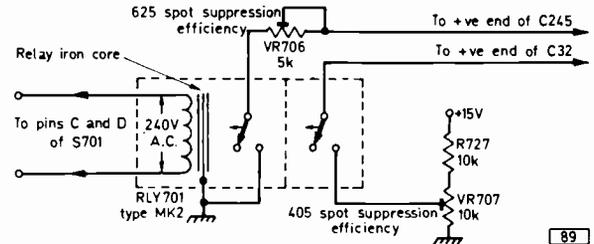

Fig. 5: Suggested switch-off spot suppression circuit. The relay contacts are shown with the receiver switched on, i.e. the relay coil is energised.
Figure 5 gives details of a circuit which will protect the c.r.t. against spot burns when the receiver is switched off. Under normal operating conditions the coil of RLY701 is connected directly across the mains. When the receiver is switched off the relay contacts close (opposite position to that shown in Fig. 5)
Fig. 6: Video circuit for single-standard (625 lines) operation. Notes: (1) R240 470Ω in this circuit. (2) Additional components in Tr207 collector lead. (3) Spot suppression relay—same type as in Fig. 5.